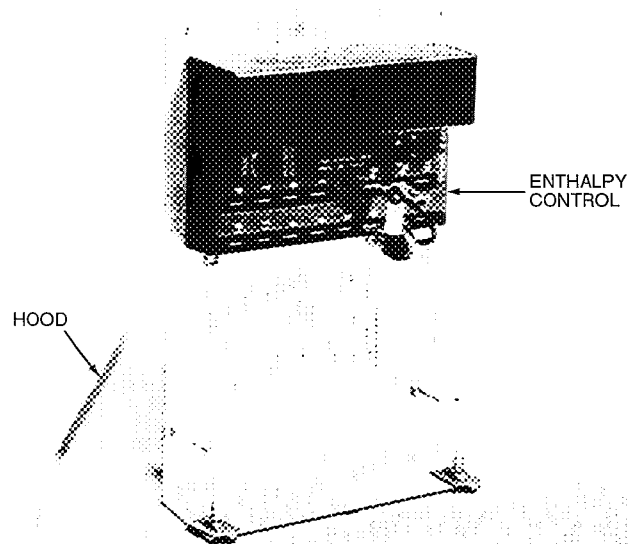
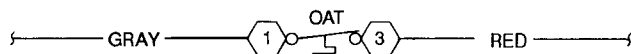

Fig. 17 – Outdoor-Air Thermostat/Enthalpy Control Installation
Fig. 19 - Wiring Connections for Outdoor-Air Thermostat
8. *Units with economizer only:* Remove tape from outdoor-air thermostat (OAT). Fasten OAT to inside of hood using screws and speed clips provided. See Fig. 17. Make sure OAT terminals are positioned up.
11. *Units with economizer only:* Place knob supplied with economizer on OAT. See Fig. 17. Set for 3° F below indoor room thermostat setting. If accessory enthalpy control (EC) is used in place of OAT, see instructions shipped with EC for installation and adjustment. See Fig. 17. Make wiring connections for OAT (see Fig. 19).